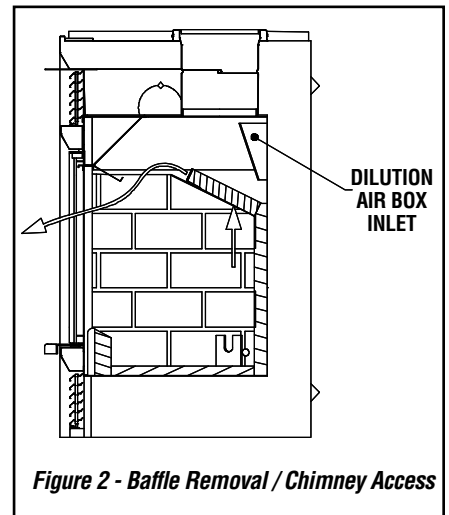

Figure 2 - Baffle Removal / Chimney Access
1. Remove the baffle refractory and it's iron angle support (figure 2);